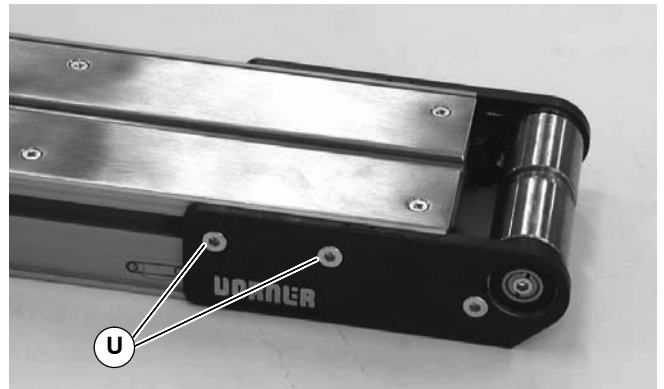

Figure 49
4. Install pulley assembly on conveyor. On both sides of conveyor, hand tighten fastening screws (U of Figure 49).